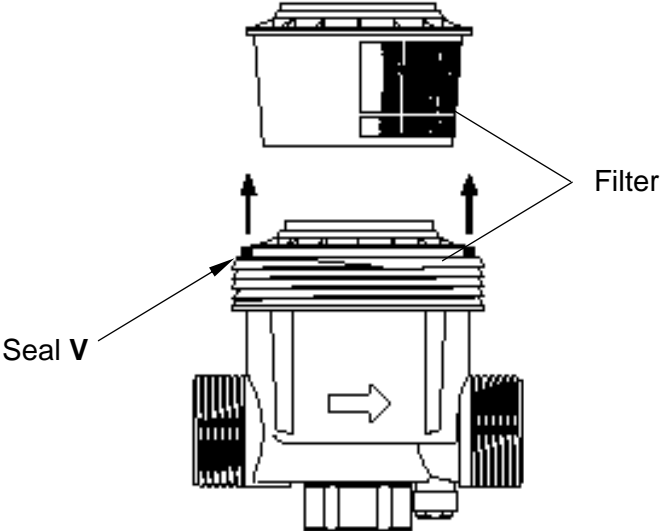

Fig. 17
- Remove the seal **V** (**Fig. 17** - page 20).